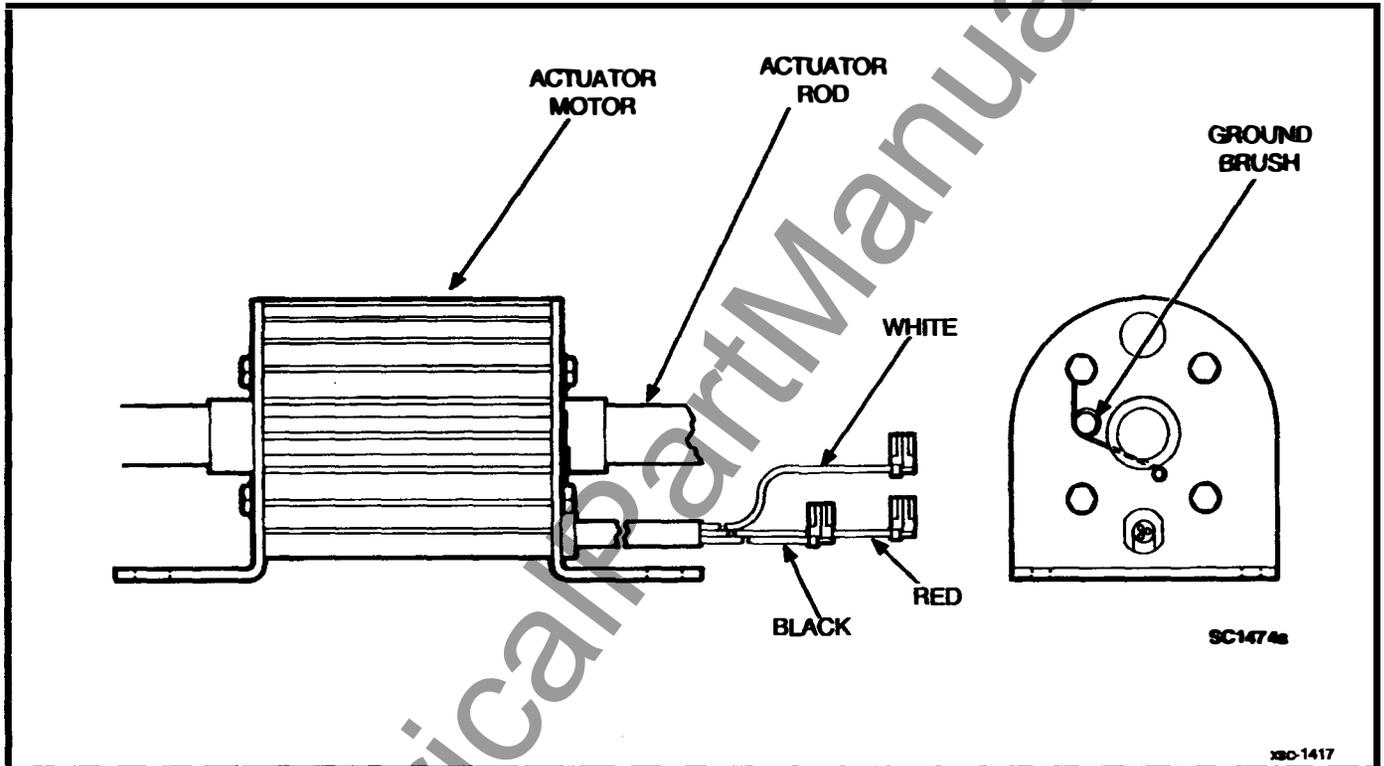

FIGURE 4-12. LINEAR ACTUATOR (300 TO 600 AMPERES)
1. Insert the actuator rod into the replacement actuator motor (Figure 4-12). Hold the actuator ground brush up slightly to allow passage of the actuator rod. Install the rod end assembly and tighten the capscrew to 70 to 75 in-lbs (7.9 to 8.5 N•m).
3. Secure the actuator motor to the switch assemblies using hex head capscrews (4), lock washers (4), flat washers (8), and spacers (4). Tighten capscrews to 45 to 50 in-lbs (5.1 to 5.7 N•m).